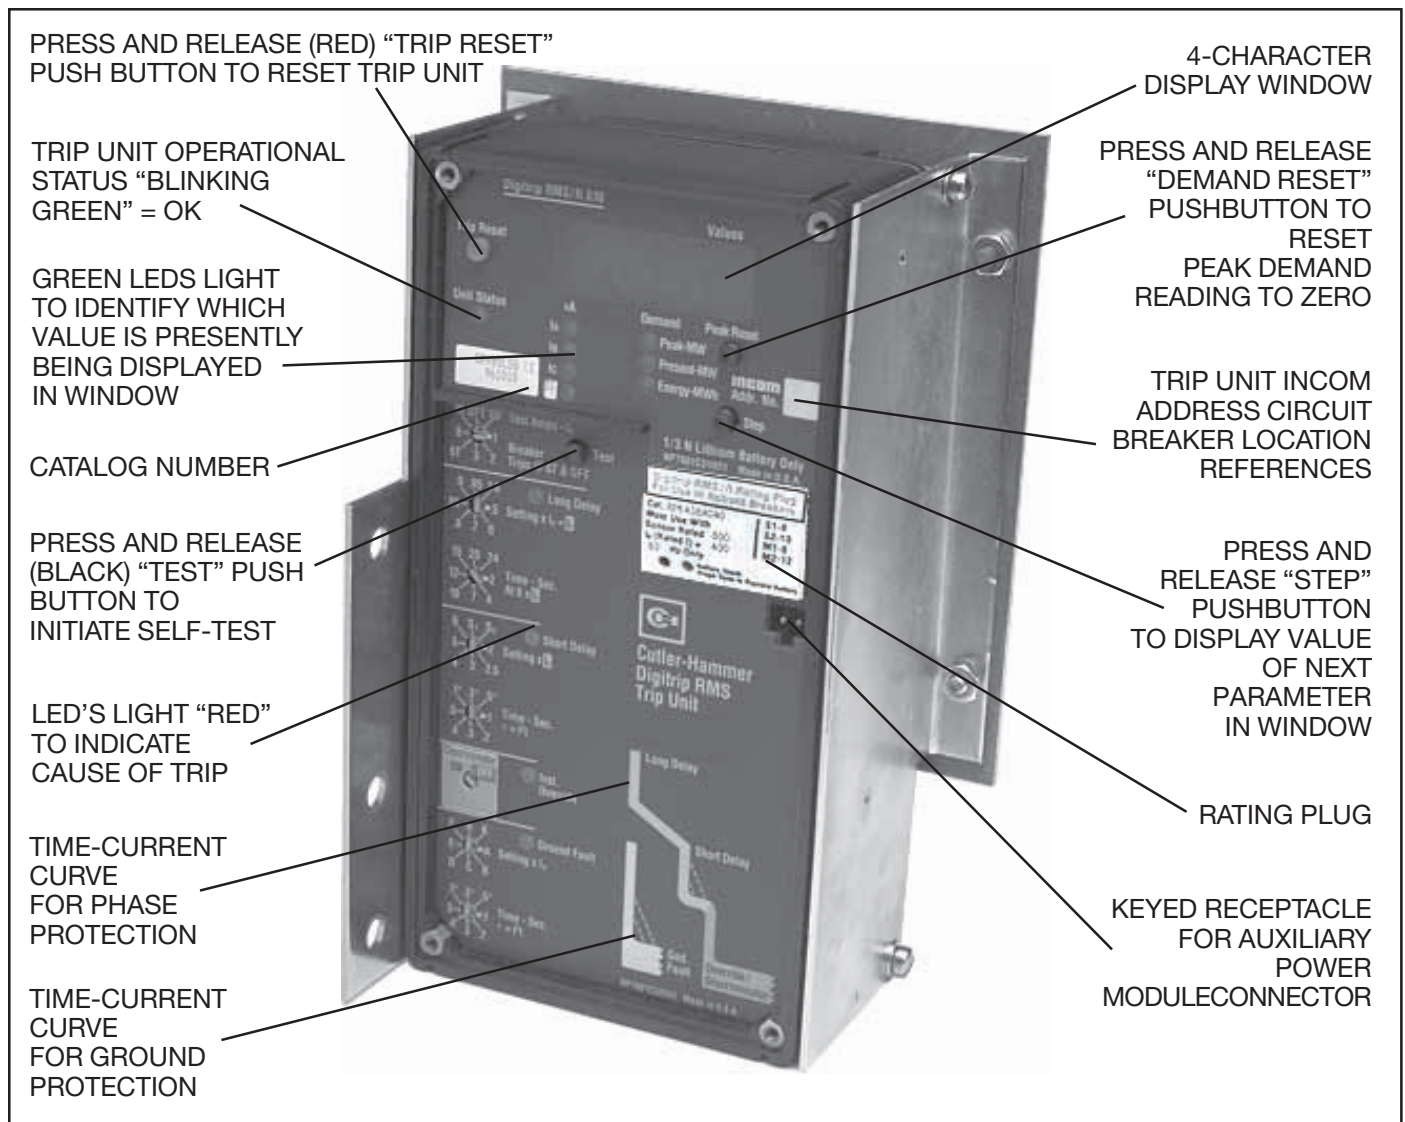

Fig. 10-4 Digitrip Trip Unit Display Panel
NOTE: Digitrip 810 & 910 Trip Units will already contain a factory-set Baud Rate and Address which, in general, will not apply to your network. For proper communications, each Trip Unit Address and Baud Rate must be set to the values applicable for your network. Similarly, prior to the installation of a Trip Unit into its Circuit Breaker, or prior to installation of a Circuit Breaker into its compartment (after maintenance for example), the user should verify that the Baud Rate and Address are correct. Failure to use the correct Baud Rate or Address can confuse the communication system. It is recommended that the appropriate Baud Rate, Address, and Circuit Breaker Cell location or bus or circuit reference be recorded in the spaces provided on the Trip Unit Display Panel, for future reference (see Figure 10-4).
1. Press and continue to hold in the "Trip Reset" push button (see Figure 10-4).
4. To decrement the Address, press and release the "Step" push button, also located near the display window (see Figure 10-4). The Address will decrease by one unit each time you press the Step push button. If you press and hold the Step push button, the Address will decrease continuously, slowly at first, and then faster as you continue to hold the button in. (Continue to hold in the Trip Reset push button while you do this.)
NOTE: As shown in Figure 10-4, there is a space to record both the INCOMM Address and the Cell Number (to identify the Breaker location within the assembly) to the left and below the display window. Because Trip Units and Circuit Breakers of the same